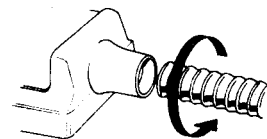

FIG. 11
3. Screw the included hose assembly (Figure 11) counter-clockwise into hole in skirt until snug.